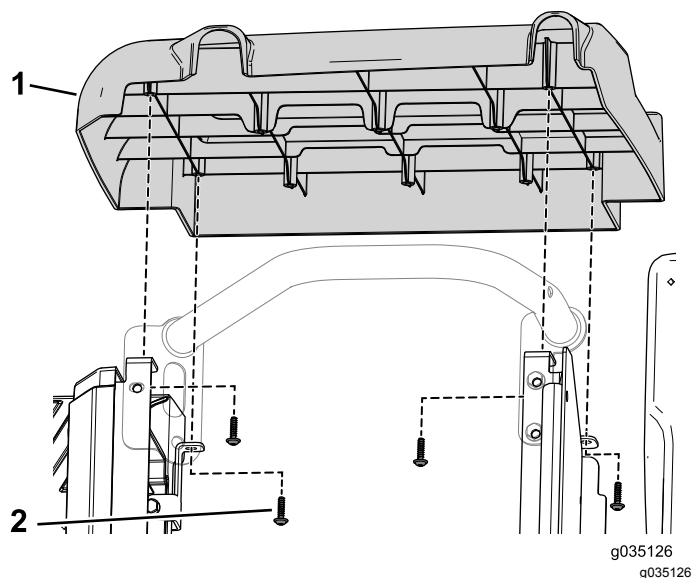

Figure 9
9. Remove the 4 screws securing the right side panel to the lower seat assembly (Figure 9).
1. Remove the 4 self-tapping screws securing the right side panel to the machine (Figure 9).
3. Secure the right side panel using the previously removed 4 self-tapping screws (Figure 9).